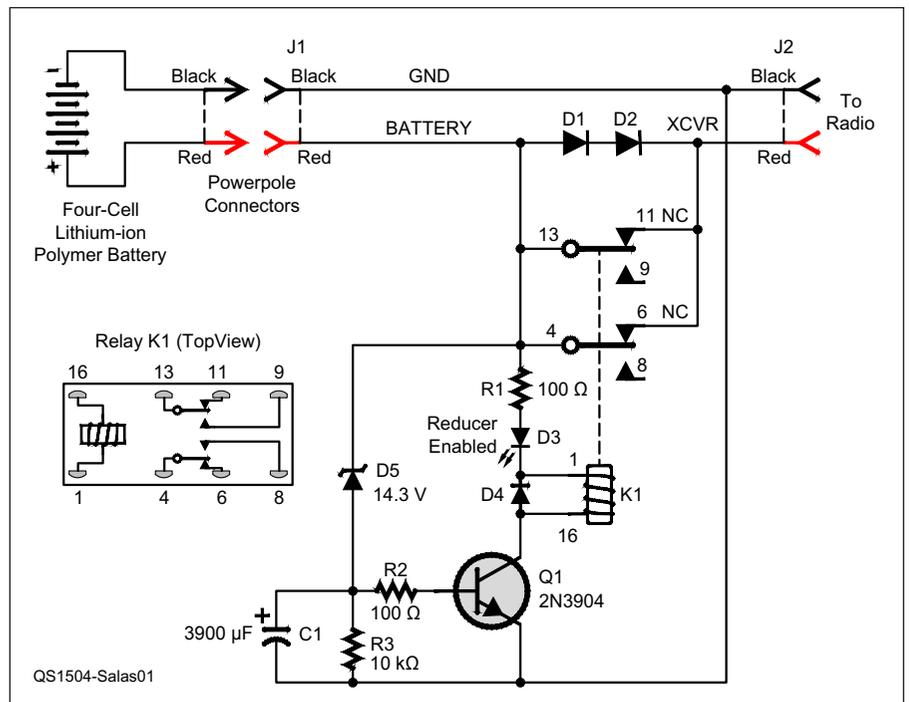

Figure 1 — Schematic diagram of the voltage reducer. Mouser (www.mouser.com) part numbers in parentheses.
The schematic for the voltage reducer is shown in Figure 1. Diodes D1 and D2 are connected in series with the battery’s positive (+) terminal and serve to drop the voltage supplied to the radio by a freshly charged battery by approximately 2 V. Two paralleled normally closed (NC) relay contacts bypass the diodes and are held open by